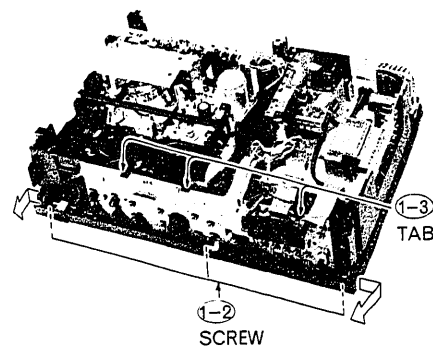

Fig. 9 Timer/P.C. Board Release
1. Timer P.C Board Release and Timer Display Release (Figs. 9, 10)